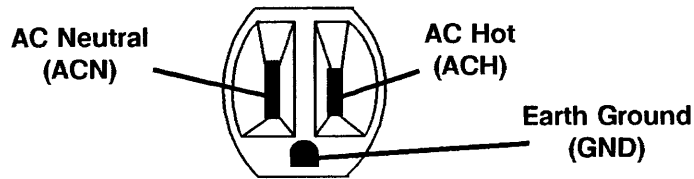
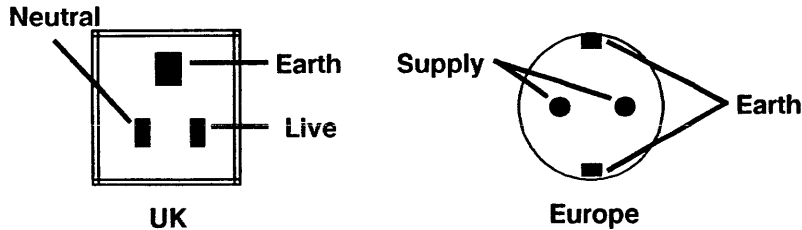

Figure 2. AC Voltage Check
Figure 2A. AC Voltage Check (RX)
13. Measure and verify the voltage at the wall receptacle (USO Figure 2, RX Figure 2A) by performing the following procedures.
USO Only: Voltage at the wall receptacle is 103 to 127 VAC between ACH and ACN, and between ACH and GND. Voltage is also less than 3 VAC between GND and ACN (Figure 2).
RX Only: Voltage at the wall receptacle is 207 to 253 VAC between live and neutral, and between live and earth. Voltage is also less than 3 VAC between earth and neutral (Figure 2A).